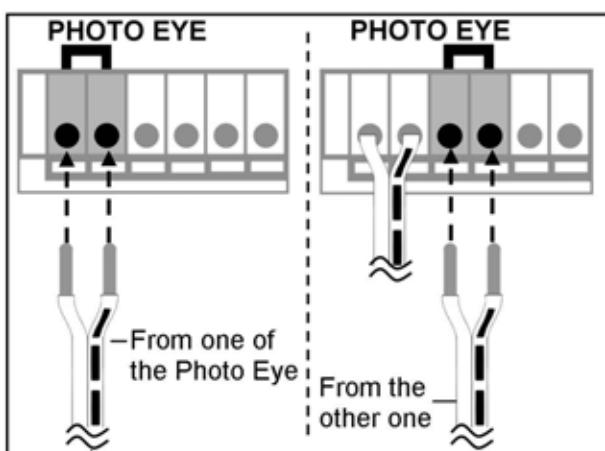

Fig. 3
1. Connect a pair of wires from either one of the Photo Eyes to a pair of "PHOTO EYE" terminals on the rear of the Opener as shown in Fig. 3. Refer to Wiring Instructions on page 12 for proper connections.